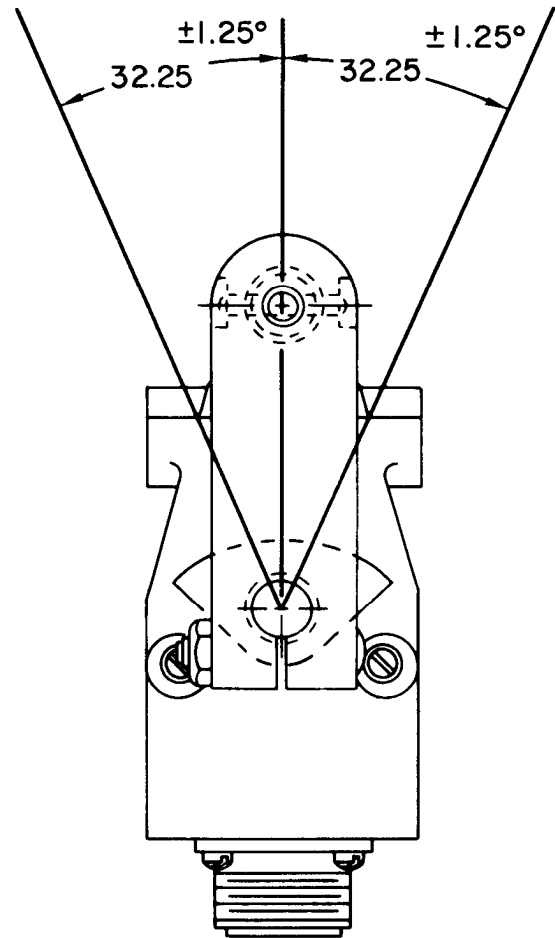

Figure 5-5. Stroke Setting Diagram, 32.25°, Part No. R460M15-3 and R460M15-11.
an. Install brake stop (7), aligning scribe marks of brake stop with output spur gear (40). Rotate output spur gear (40) slowly by hand to detect any evidence of binding within travel limits. Any evidence of binding may necessitate relocation of brake stop (7) on output spur gear (40). (See figure 5-5.)
a. Substitute figure 5-5 for figure 4-1.